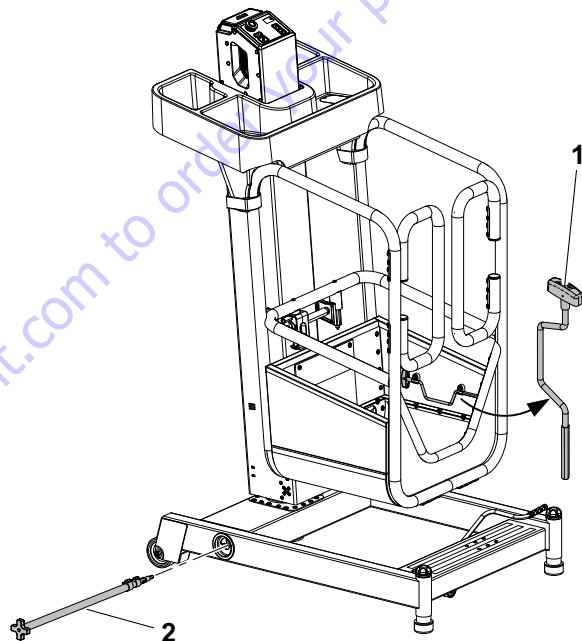

Figure 2-5. Location of manual descent tools
- 8. Manual Descent Crank** - Ensure it is present and securely attached in platform (See Figure 2-5.).